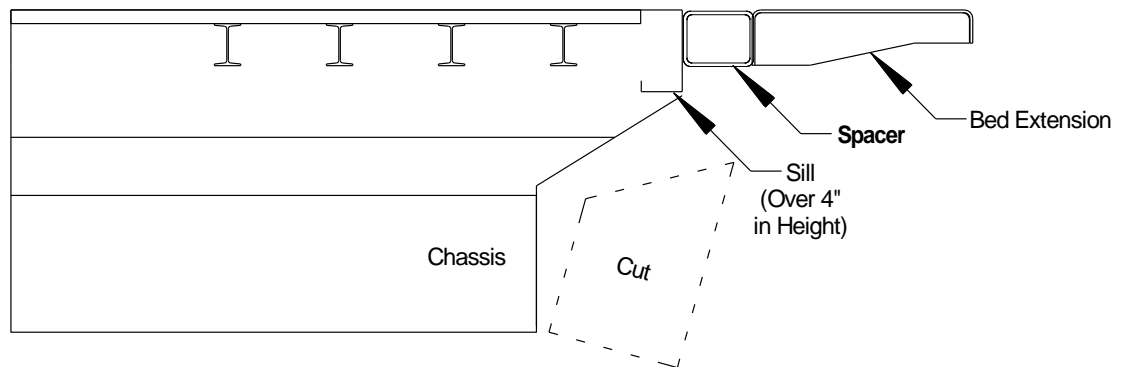

Fig. 4
- If the vehicles sill measures more than 4" in height, add a spacer to the rear of the vehicle, **Fig. 4**. The spacer will shift the bed extension back allowing the platform to clear the bottom of the sill when it is in stored position. Reference cutout dimensions from Step 1 to determine the chassis cutout.